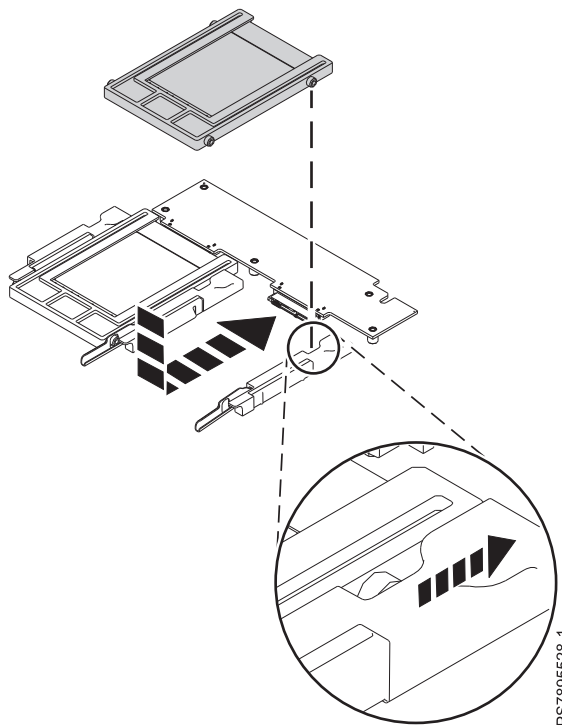

Figure 20. Installing an SSD carrier
Figure 20 shows how to install the disk drive.
9. Place the carrier case into the drive tray and push it toward the rear of the compute node, as indicated in Figure 20 on page 51. When the SSD carrier moves past the lever at the front of the tray, it snaps in place.